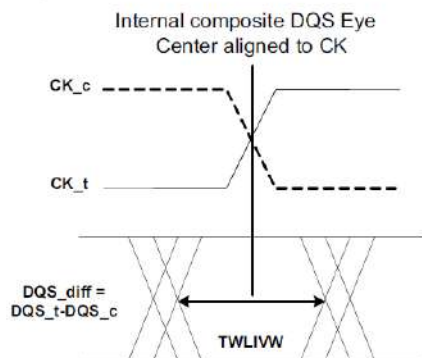

Figure 25. DQS_t/DQS_c to CK_t/CK_c timings at the DRAM pins referenced from the internal latch
28) t_{WLIVW} is defined in a similar manner to t_{DQSV}_{Total} , except that here it is a DQS input valid window with respect to CK. This would need to account for all VT (voltage and temperature) drift terms between CK and DQS within the DRAM that affect the write-leveling input valid window. The DQS input mask for timing with respect to CK is shown in Figure 25. The "total" mask (t_{WLIVW}) defines the time the input signal must not encroach in order for the DQS input to be successfully captured by CK with a BER of lower than tbd. The mask is a receiver property and it is not the valid data-eye.